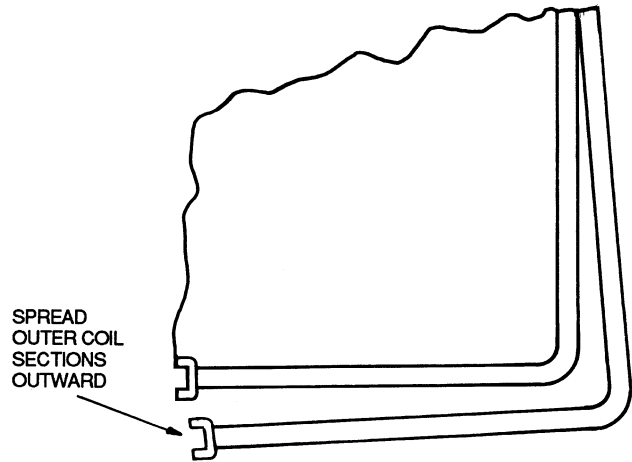

Fig. 25 — Coil Cleaning (Typical)
3. Remove clips securing tube sheets together at the return bend end of the coil. Carefully spread the ends of the coil rows apart by moving the outer sections. See Fig. 25.